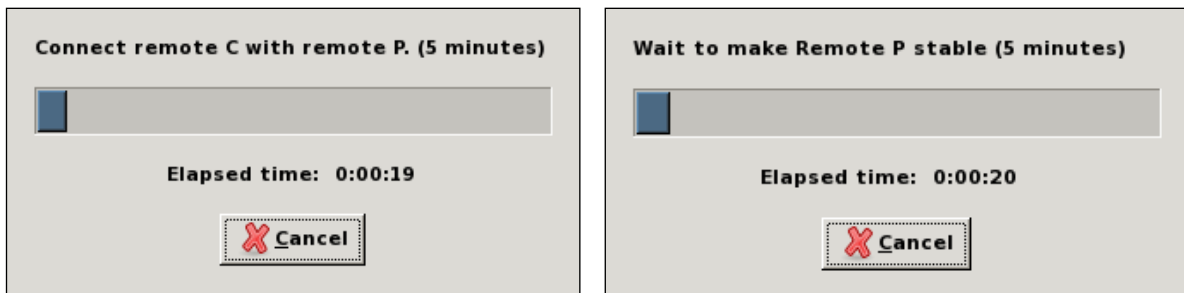

Figure 80 The two Depolarize dialogs
- Follow the instruction on the first dialog (Figure 80)